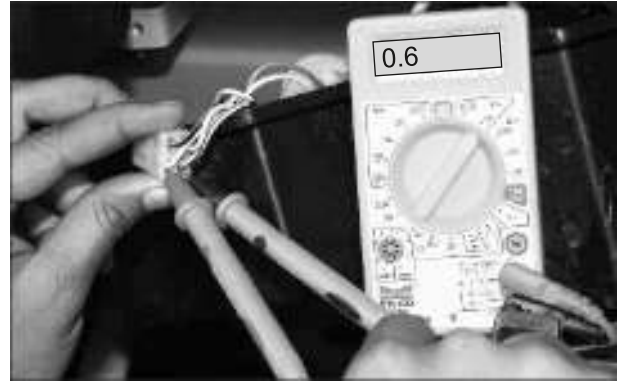

Fig. 6.29
- Connect the '+ve' probe of the multimeter to the White with Red tracer (WR) wire from the magneto assembly and '-ve' probe of the multimeter to the White with Black trace (WB) wire from the magneto assembly. (Fig. 6.29)